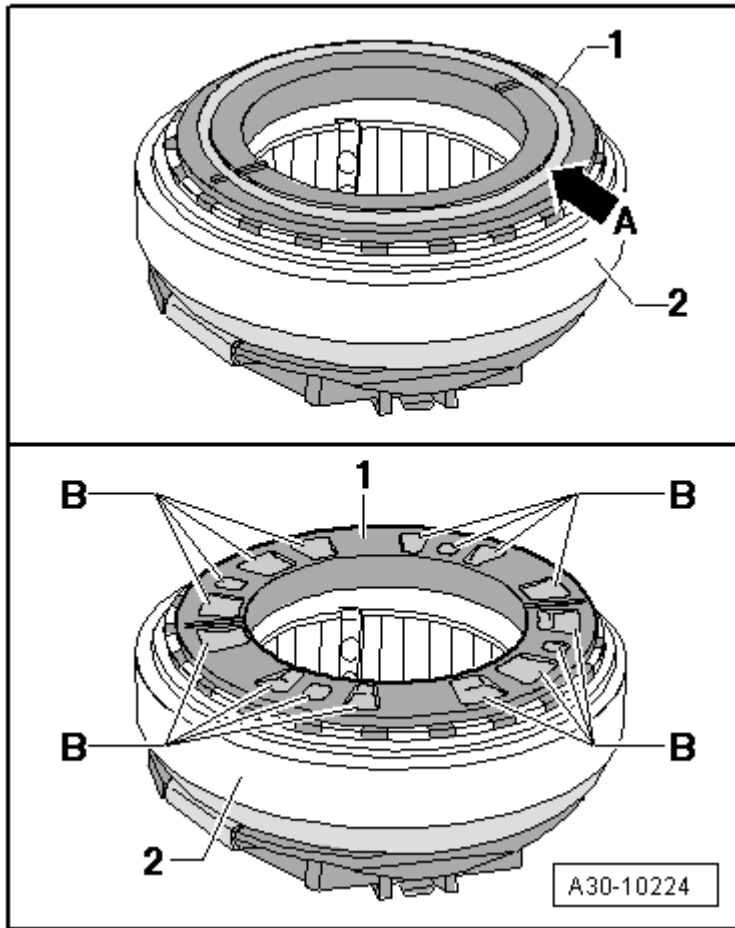

Fig. 17: Checking Release Bearing With Pressure Ring - From February 2008
- Check the release bearing with the pressure ring, refer to Fig. 17
- Installed on the release bearing with pressure ring, refer to **Fig. 17**